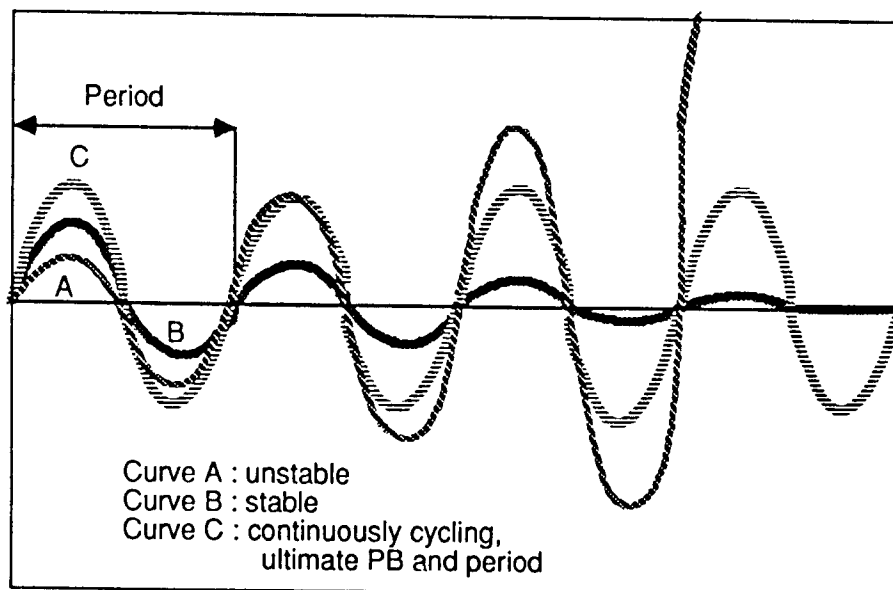

Figure 4-4. Tuning Curves
3. With the Proportional Band (PB) of the proportional mode of the controller at some arbitrary value, disturb the equilibrium of the process and observe the response. One easy method for disturbing the equilibrium is to move the setpoint for a few seconds and then return it to its original value.
4. If the response curve from step 3 does not damp out, as in curve A in Figure 4-4, the PB is too low. The PB should be increased and step 3 repeated.